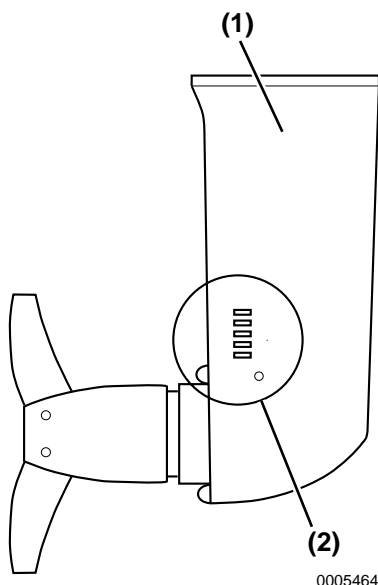

Figure 1
Remove seaweed, seashells and other marine growth from the lower gear case. Completely remove deposits around the cooling water intake (**Figure 1, (2)**) since the engine may overheat if the cooling water intake amount is insufficient.